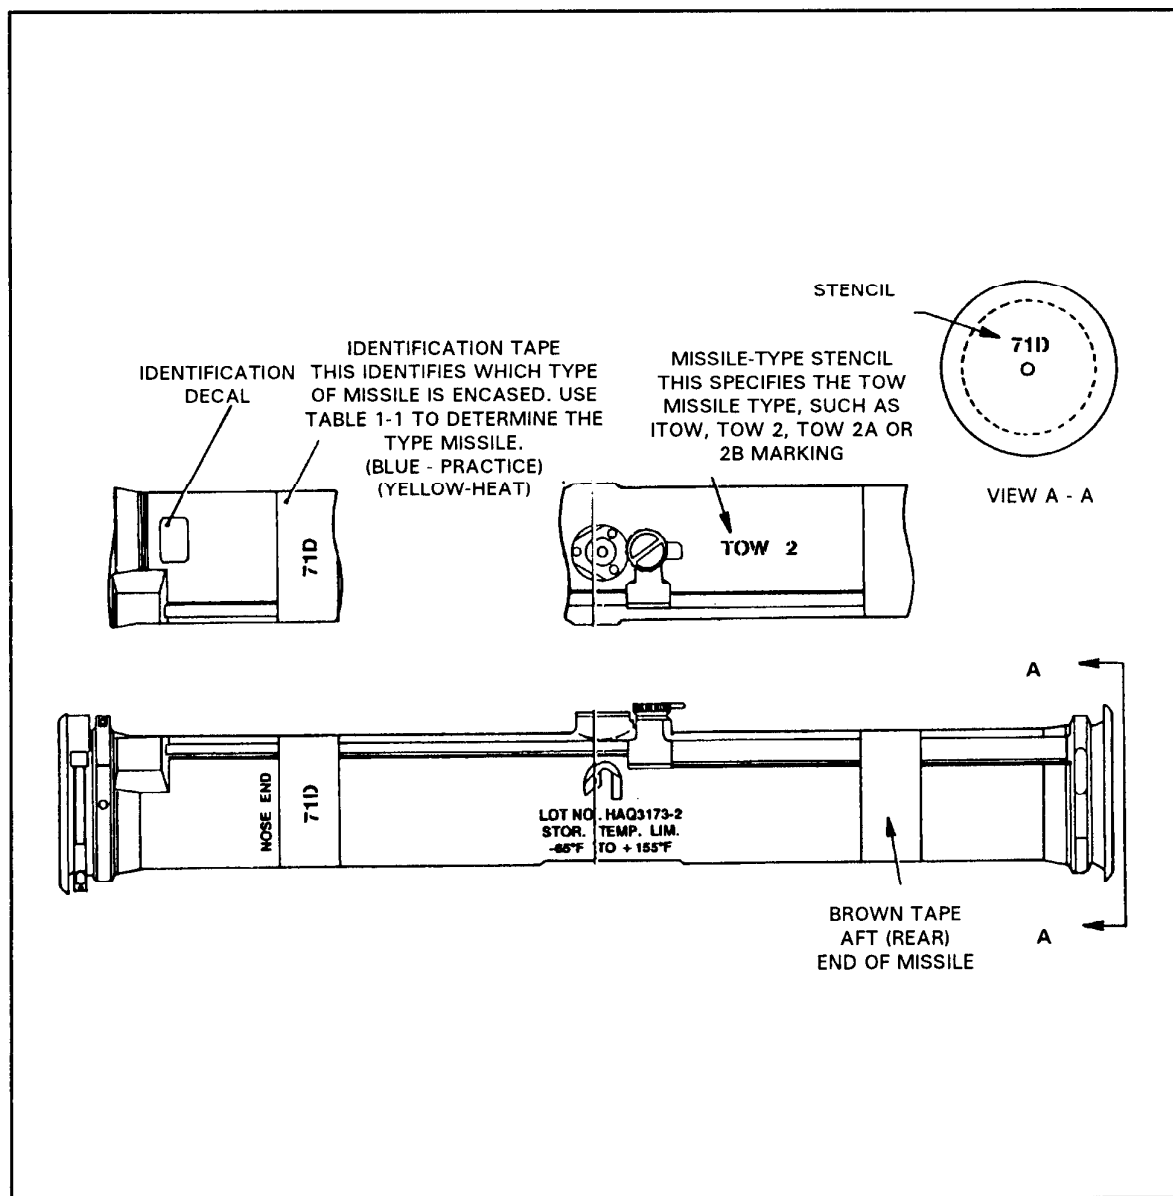

Figure 1-3. TOW missile case markings.
a. The configuration of the missile can be readily identified by the various identification decals, tapes, and stencils on the missile case (Figure 1-3 and Table 1-1.) (See TM 9-1410-470-34 for current information on TOW missiles.)